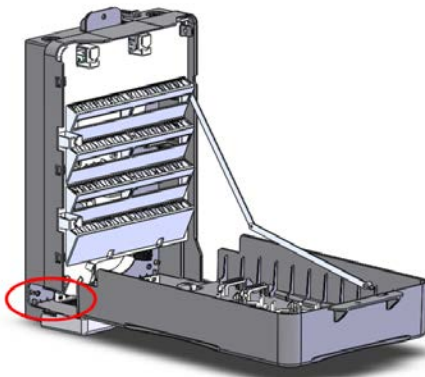

Figure 7
- 1.1.6 Use pliers to open the side where the expansion module is installed (Fig.7)